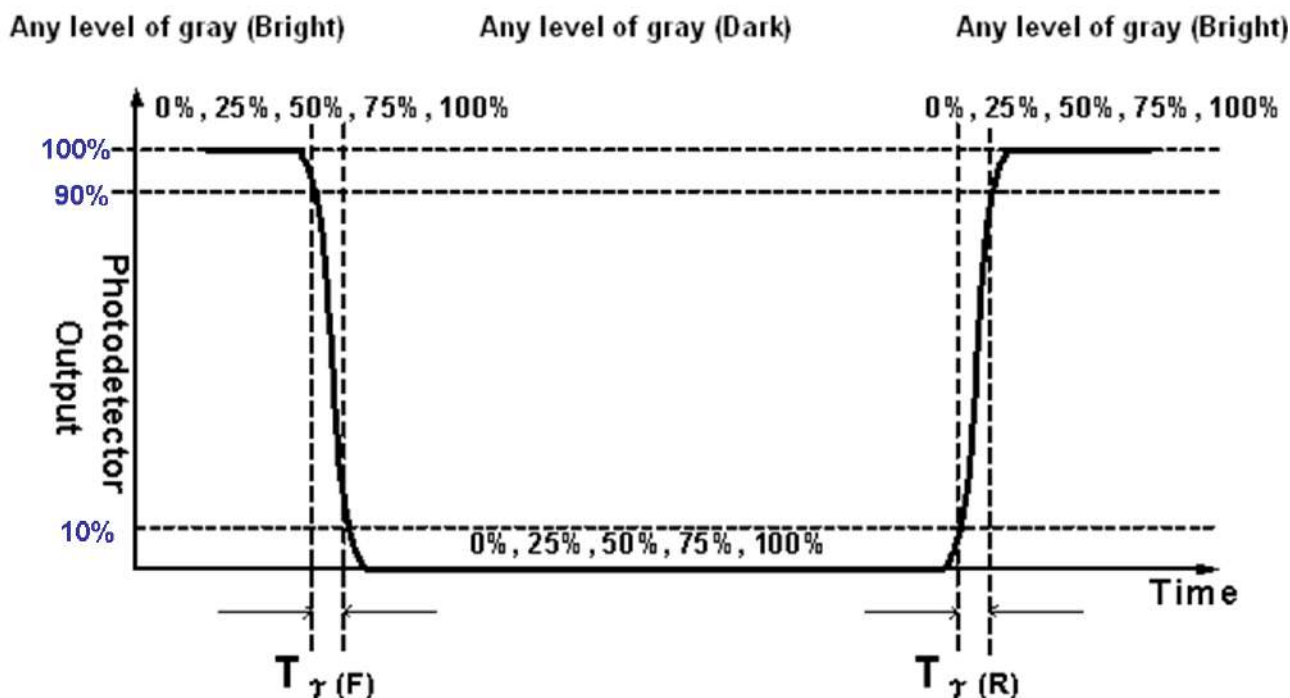

Fig. 2 Luminance
2. Surface luminance is luminance value at point 5 across the LCD surface 50cm from the surface with all pixels displaying white. From more information see **Fig. 2**. LED current I_F = typical value (without driver board), LED input $V_{\text{DDB}} = 24\text{V}$, I_{DDB} = Typical value (with driver board), $L_{\text{WH}} = L_{\text{on5}}$ where L_{on5} is the luminance with all pixels displaying white at center 5 location.